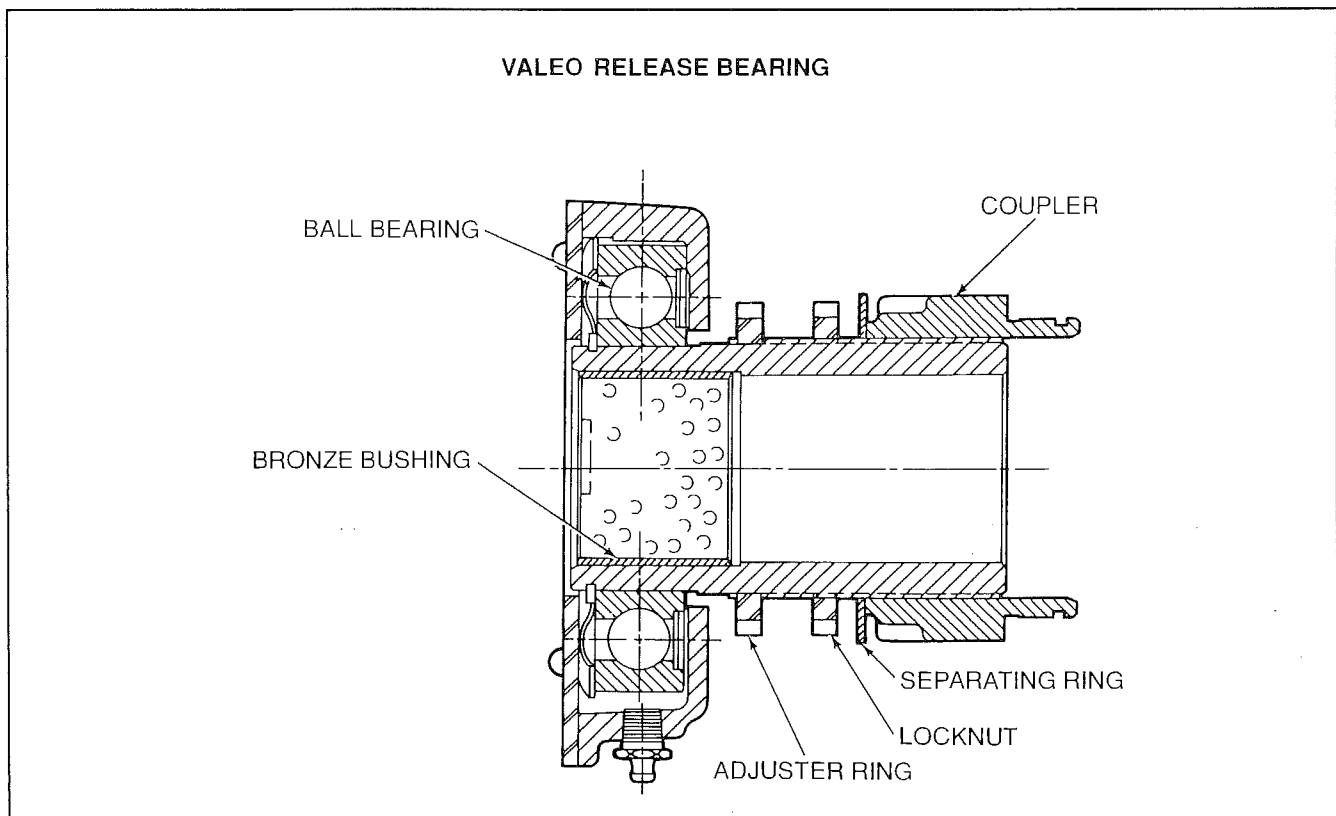

Figure 9-1. Clutch Release Bearing Sectional View
5. Inspect the bore of the release bearing threaded sleeve to see if the bushing is seated in its proper location (Fig. 9-1). Examine the bushing condition. Look for signs of excessive side loading that would indicate transmission misalignment.